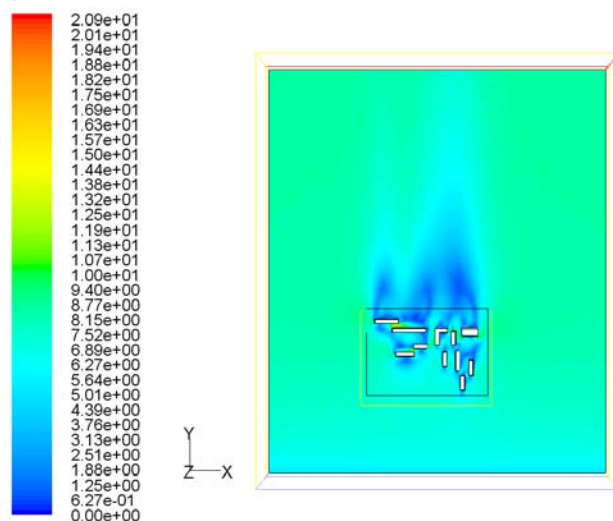

Fig. 21 Temperature contours at the middle plane.
- Now the contours is copied to the clipboard which can be pasted to other document editing programs (see Fig. 21). Note that for a large model it might take a minute to copy the image to the clipboard.*